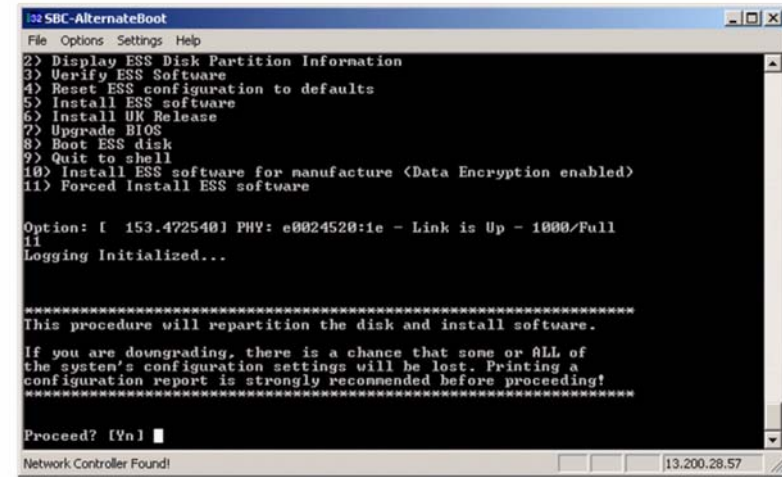

Figure 17 Install confirmation window
14. At the proceed prompt, Figure 17, select 'Y'.